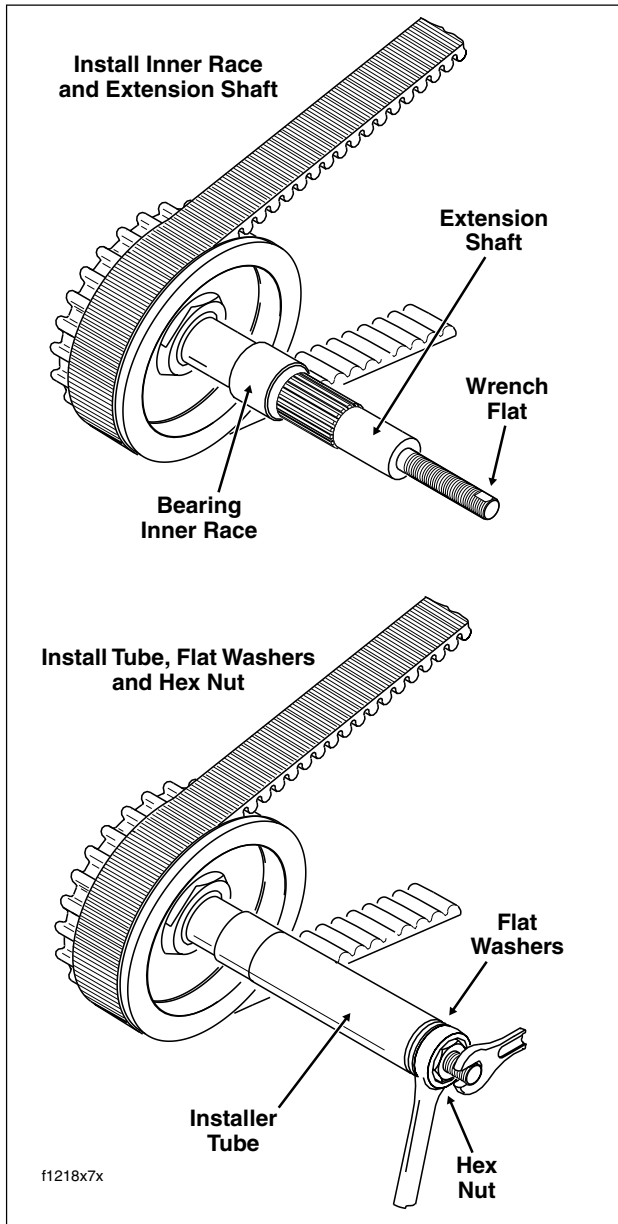

Figure 6-35. Press Bearing Inner Race onto Mainshaft
1. See Figure 6-35. Chamfered edge first, slide the bearing inner race onto the transmission mainshaft.
3. See Figure 6-35. Slide installer tube over extension shaft until it contacts bearing inner race. Sparingly apply graphite lubricant to threads of extension shaft to ensure smooth operation.